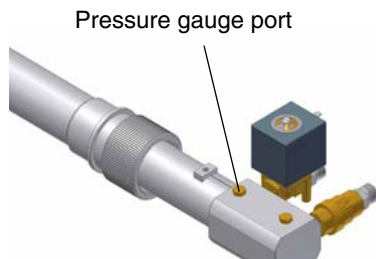

Fig. 24
- 9 the nozzle supply pressure is already factory-set and must not be changed. Only if necessary, adjust the supply pressure as follows (see related paragraph); insert a pressure gauge into the port shown on Fig. 24 and act on the pump adjusting screw **VR** (see Fig. 23 and page 21) as to get the nozzle pressure at 20 bar or 25 bar (according to the nozzle model provided: Bergonzo or Flui-